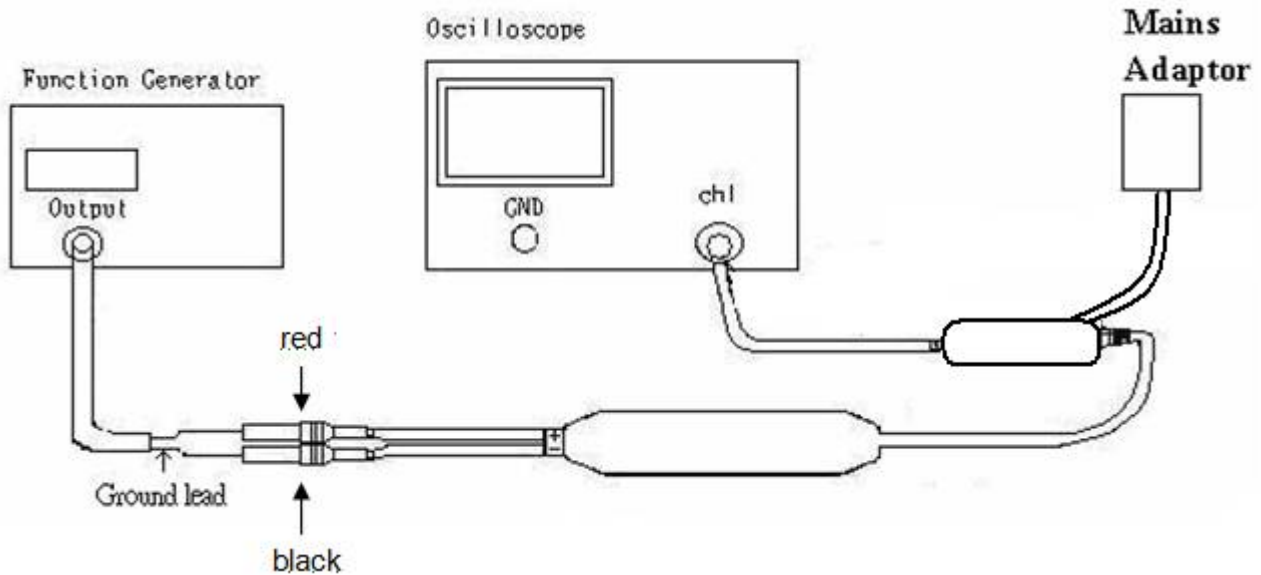

Fig. 6
- E-1. Connect the probe as shown in figure 6.